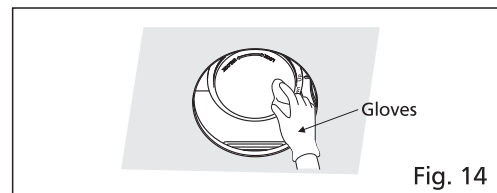

Fig. 14
5. Using a cloth dampened with kitchen detergent, remove any dirt from fan body. Wipe dry with clean cloth. (Fig. 14)